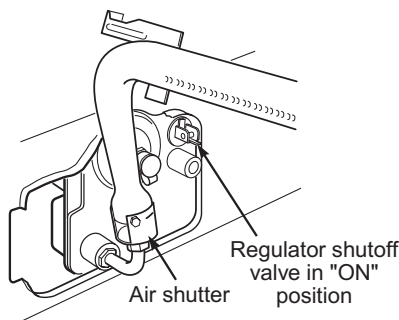

Figure 15
If burner does not light, check that the regulator shutoff valve is in the ON position. See Figure 15.
7. See Figure 15. Locate the air shutter close to the pressure regulator. Loosen screw and adjust the air shutter until the proper flame appears. Tighten screw.